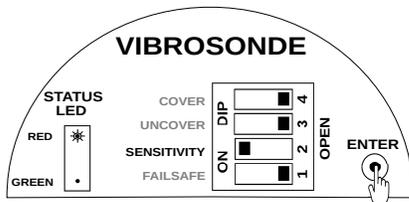

Figure 8: Setting Sensitivity Value
- Press ENTER. The STATUS LED starts blinking. Blink the STATUS LED according to value of sensitivity as shown in Figure 8.